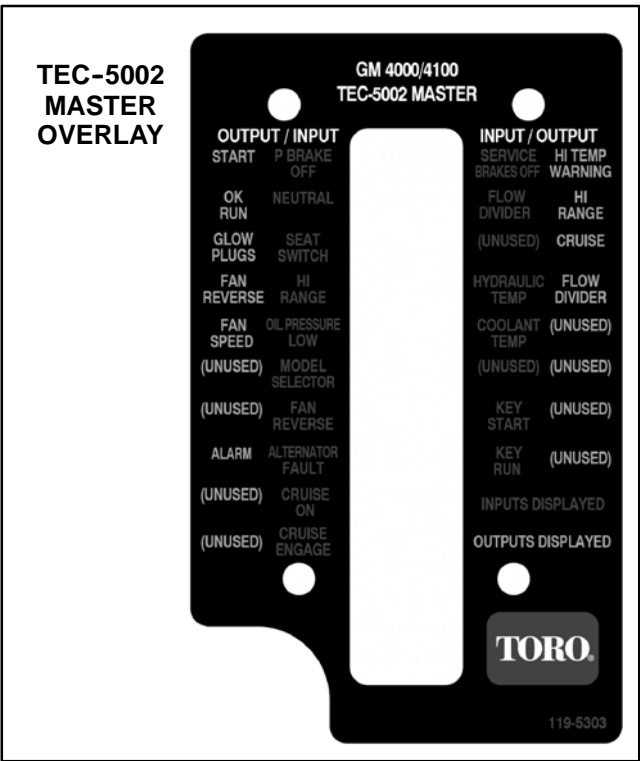

Figure 9
3. Connect the Diagnostic Display connector to the wire harness connector. Make sure correct overlay decal is positioned on the Diagnostic Display (Figs. 9 and 10).
3. Connect the Diagnostic Display connector to the harness connector. Make sure correct overlay decal is positioned on the Diagnostic Display (Figs. 9 and 10).